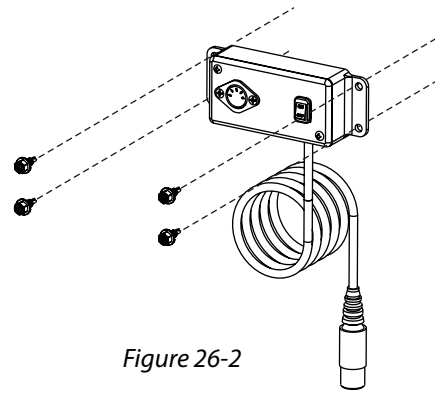

Figure 26-2
7. If customer prefers, fasten enclosure to chosen location using self-drilling screws provided. [Figure 26-2] Do NOT over-torque these screws.